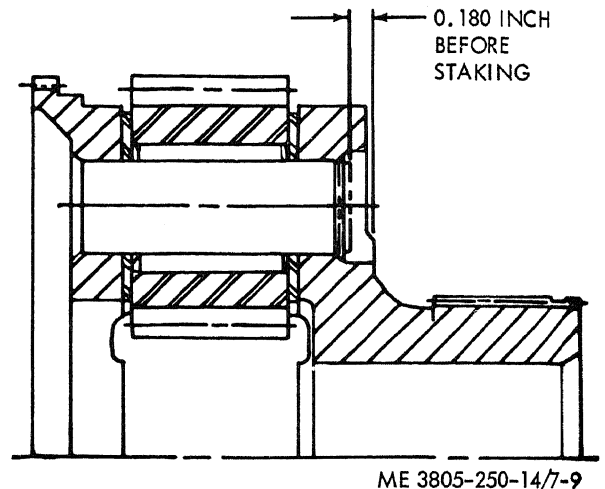

Figure 7-9. Low range planetary pinion pin installation.
(17) Chill new low range planetary piston pins (90) in dry ice for 1 hour. Using the same aligning tool as was used for the reverse range planetary pinions, install a thrust washer (92) on the tool. Coat the bore of a pinion (91) with oil soluble grease and install it on the aligning tool. Insert twenty-two pinion rollers (93) into the space between the pinion and the aligning tool, and install the remaining thrust washer (92). Repeat for each pinion.
(18) Position the carrier (83), hub upward, on a level surface. Slide the aligning tool out of the assembled pinion and install the pinion in the carrier. Insert the aligning tool to properly align the pinion parts in the carrier. Repeat for each pinion.
(19) Position the carrier, hub upward, in a press. Start a chilled pin (90) into the pin bore, and press it in until the pin is 0.180 inch below the shoulder surface as shown in figure 7-9. Repeat for each pinion.